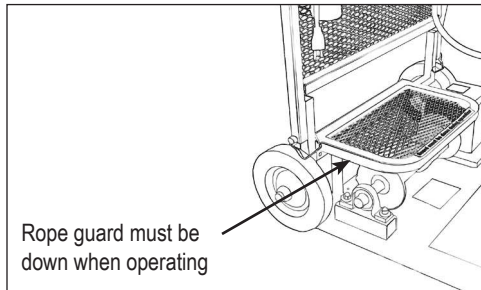

FIG. 7
- Ensure rope guard is in place. Guard should be in the down position to cover rope and drive shaft (Figure 7).